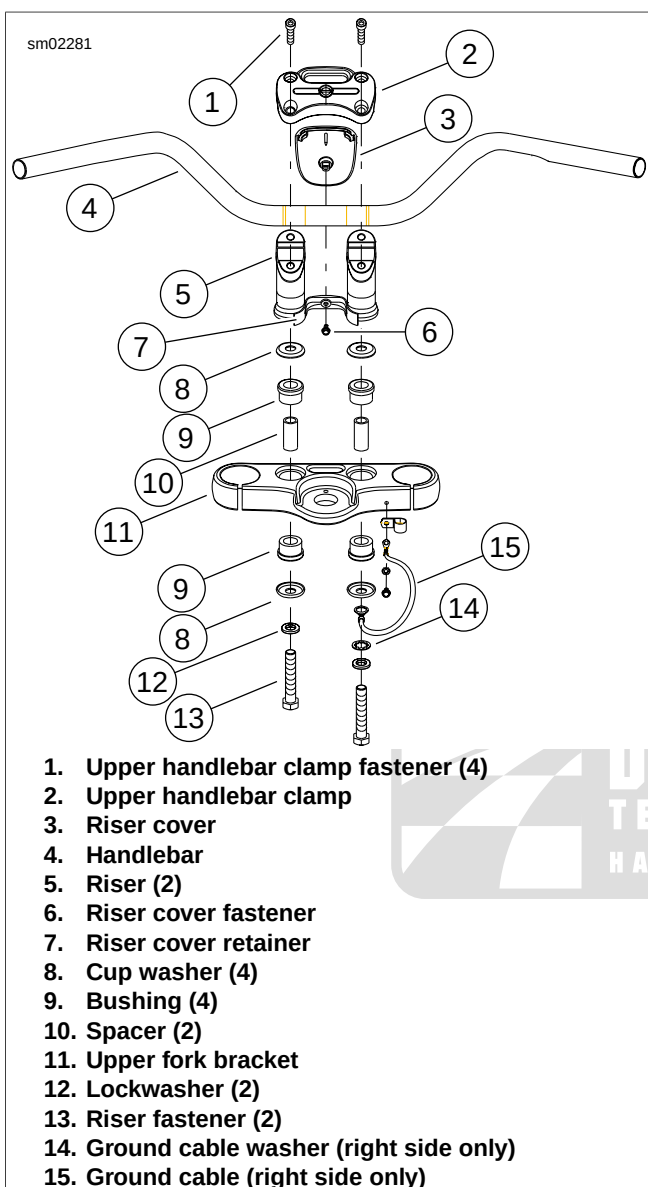

Figure 2-102. Handlebars: FXDL
1. See Figure 2-102. Remove riser cover fastener (6) and riser cover (3).
2. Remove upper handlebar clamp fasteners (1).
3. Remove upper handlebar clamp (2).
4. Remove handlebar (4).
- If removing risers (5), remove two riser fasteners (13), lockwashers (12), ground cable (15) and ground cable washer (14) and risers from upper fork bracket (11). Replace bushings (9) if necessary.
- See Figure 2-102. If risers (5) were removed, install lockwashers (12) on riser fasteners (13). Install ground cable (15) and ground cable washer (14) on right-side fastener.